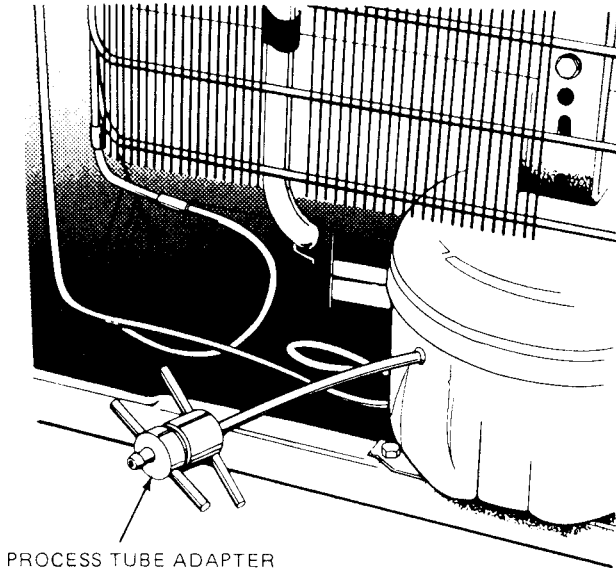

Fig. 12-7 Process-tube adapter. (Kelvinator)
5. Install a process-tube adapter kit. See Fig. 12-7. If the adapter is not available, slip a $\frac{1}{4}$ in. flare nut over the copper tube and flare the tube.